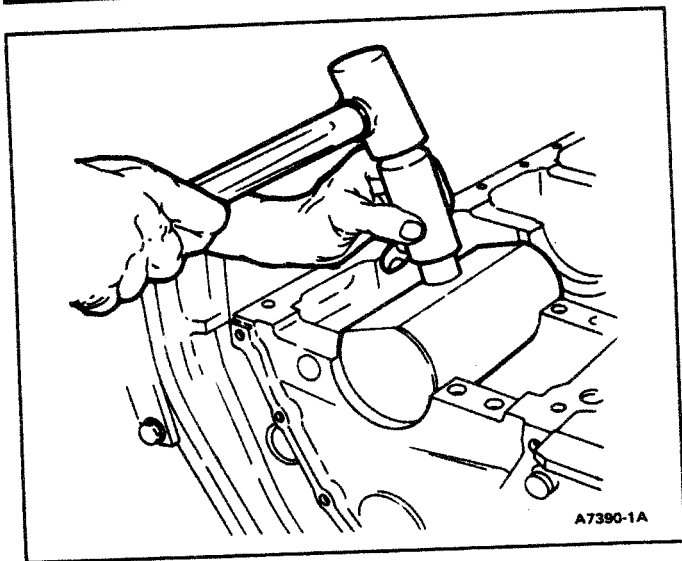

FIG. 88 Installing Piston Cooling Jet
2. Start jet by lightly hitting tool with hammer. Then hit tool with hammer until drive bottoms on body of tool (Fig. 88).